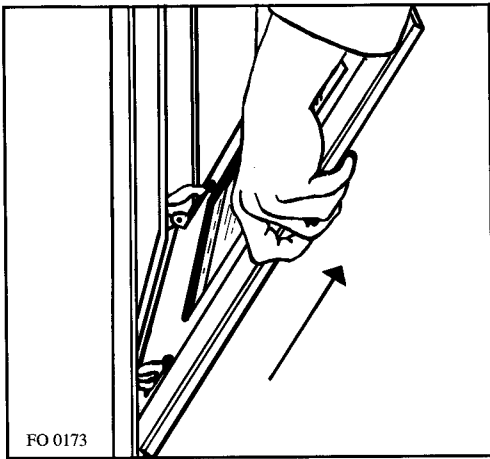

Fig. 9b
3. Grasp the oven door on both sides, about half way down. Close the door to the half way position, lift and pull toward yourself (see Fig. 9B), this will allow you to manoeuvre the hinges out of their sockets.